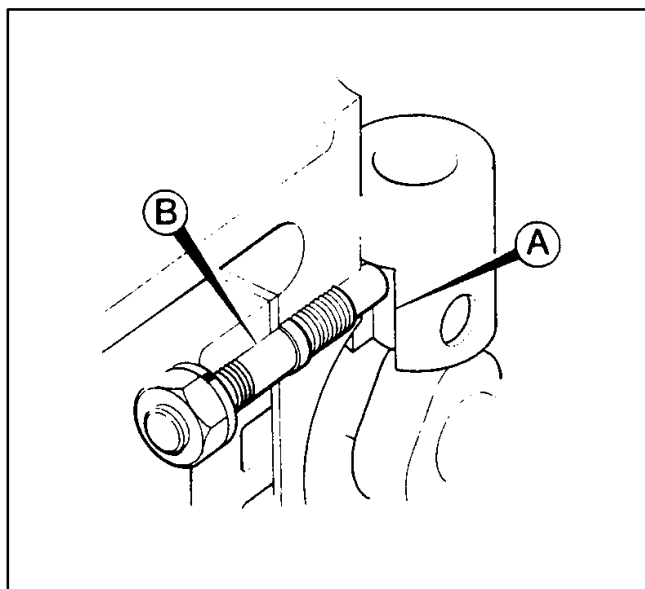

FIGURE 8-40. FUEL PUMP TAPPET AND STUD
Use a magnet tool to remove or install a fuel pump tappet and its thrust cup. A stud projecting into the tappet bore (Figure 8-40, Item B) keeps the tappet (A) from turning. See the instructions and precaution on Page 8-19 about the stud used both for mounting the crankcase door and locating the tappet.